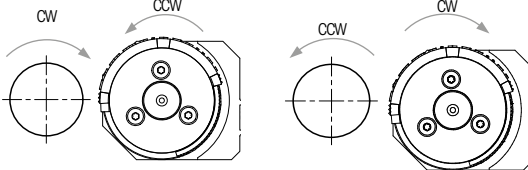
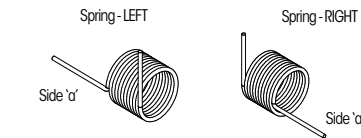
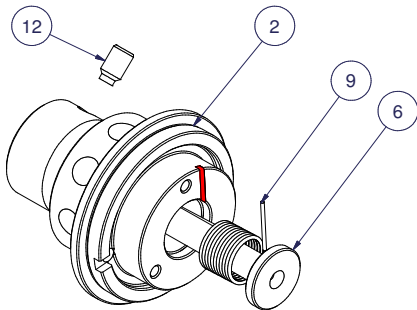

Figure 3: Direction of rotation of workpiece and marking roll
Figure 4: Spring
Figure 5: Installation of the spring
The direction of rotation of the tool and/or axis (clockwise = CW or counter-clockwise = CCW) is crucial for selection of the correct spring (Fig. 3). With CW rotation of the workpiece, the right-hand version (Fig. 4, RIGHT) of the spring must be installed and the left-hand version (Fig. 4, LEFT) must be installed for CCW rotation. Slide the spring (Fig. 5, pos. 9) with mounting side 'a' into the bore of the stop receptacle (Fig. 5, pos. 2). Ensure that the shorter end is positioned in the groove (Fig. 5, marked red). Then, slide the collar bolt (Fig. 5, pos. 6) into the bore and fasten with the threaded pin (Fig. 5, pos. 12). The carrier unit must have only enough play that friction-free rotation is possible.
After the tool has been set up, the workpiece can be approached and adjusted with a rotating spindle. With rotation of the workpiece, the marking roll is driven in the opposite direction (cf. Fig. 3). Characters of the marking roll are embossed in the process. Is the marking completed, the marking roll stops in the end position. Then, if the tool is removed from the engagement, the carrier unit springs to its initial position.